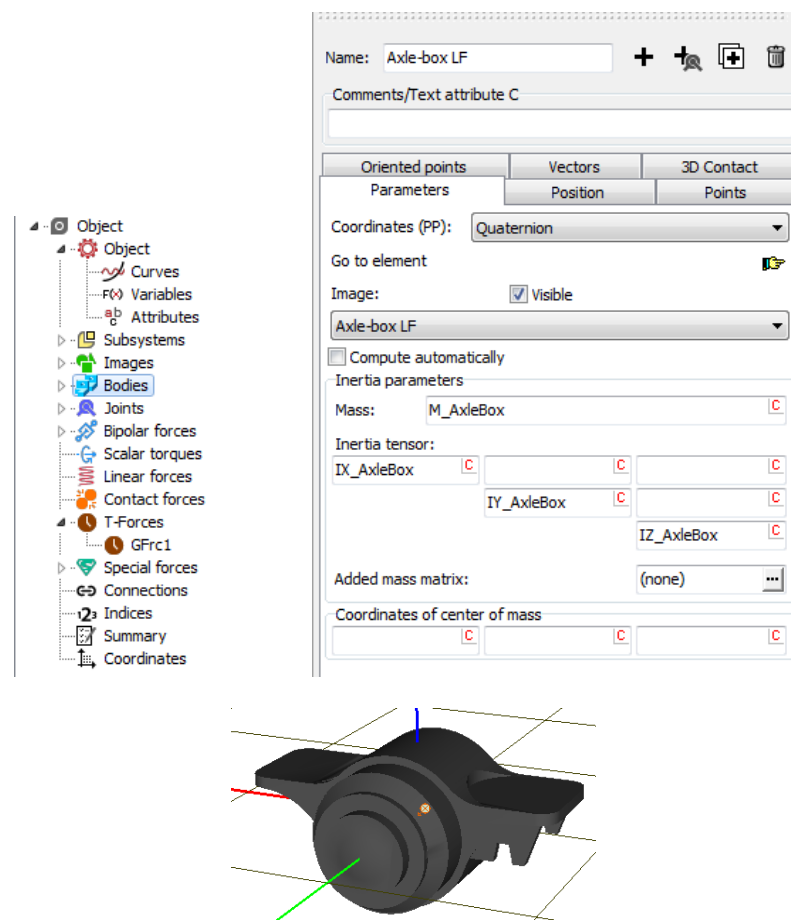

Figure 2.12. Adding a body: the left front axle-box
- Open the empty list of bodies, Figure 2.12, left.
- Rename it as **Axle-box LF** – (L)eft(F)ront.
**Note** Please note that the most effective **Park Parallel** solver requires that mass and diagonal components of inertia tensor should be implemented. Otherwise **Park Parallel** will not be applicable. So you may specify Y-axis moment of inertia only, as it is described above and use any solver besides **Park Parallel** or specify all required fields (mass and all axis moments of inertia), Figure 2.12, and make **Park Parallel** also available.